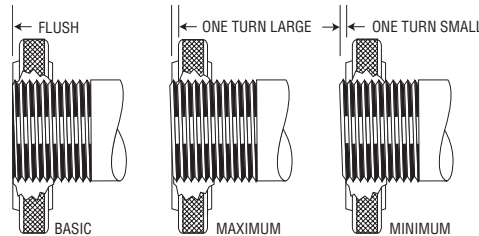

Fig. 2 Gaging external NPT threads.
**External Taper Pipe Threads:** In gaging external taper threads, the ring gage is screwed up tight by hand on the external thread of the product. The thread is within the permissible tolerance when the the gaging face of the working ring is plus or minus one turn from being flush with the end of the thread. Figure 2.